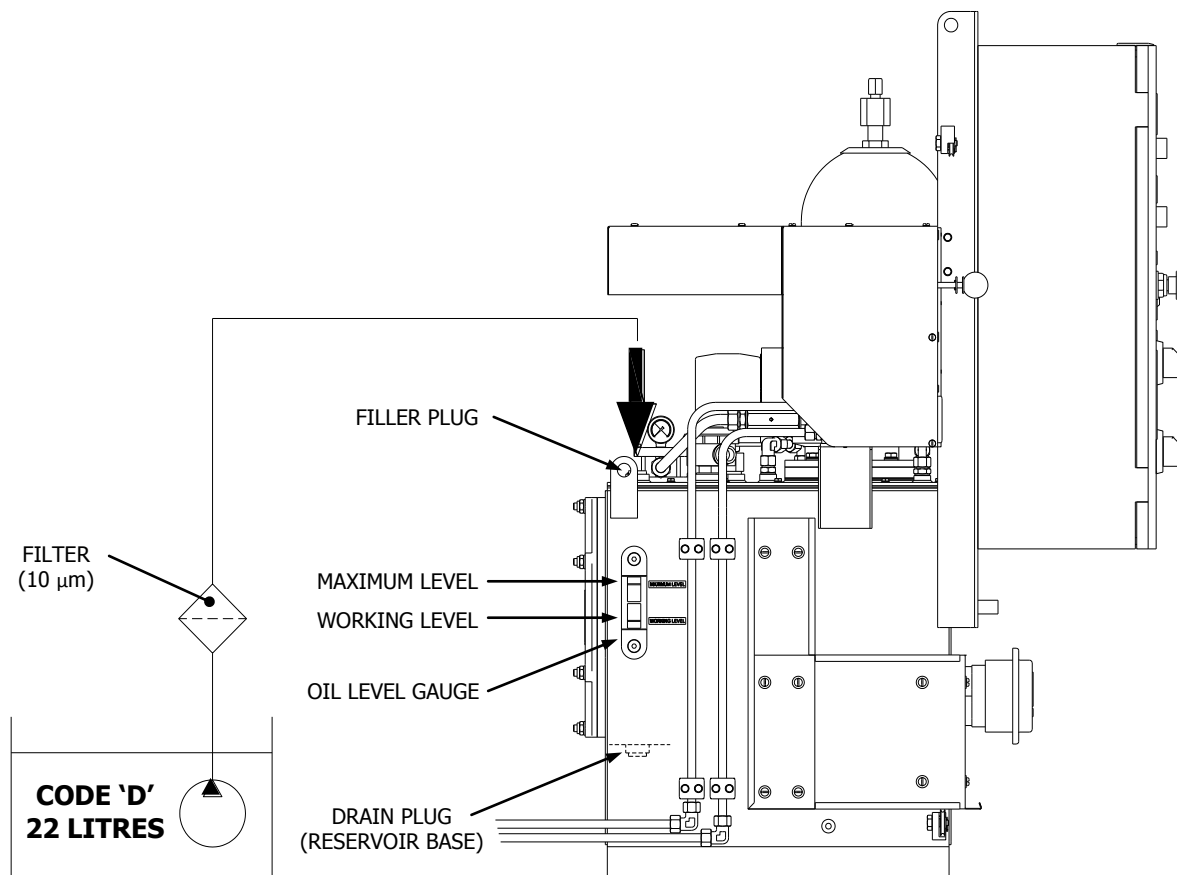

Figure 8.18: Filling Hydraulic Reservoir
- Remove filler plug on hydraulic reservoir and fill with filtered oil (10 µm) to 'Maximum' level on gauge. See figure 8.18: Filling Hydraulic Reservoir.